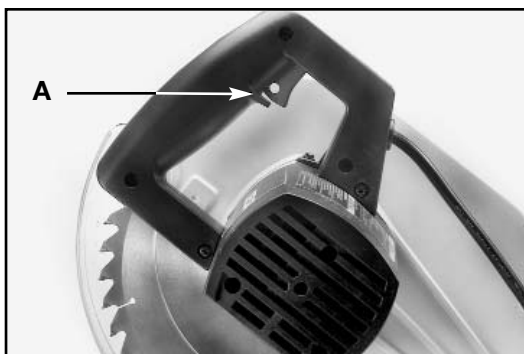

Fig. 10
To start the machine, depress switch trigger (A) Fig. 10. To stop the machine, release the switch trigger. This miter saw is equipped with an automatic electric blade brake. As soon as the switch trigger (A) Fig. 10 is released, the electric brake is activated and stops the blade in seconds.
⚠ WARNING A turning saw blade can be hazardous. After completing the cut, release the switch trigger (A) Fig. 10 to activate the blade brake. Keep the cutterhead down until the blade has come to a complete stop.